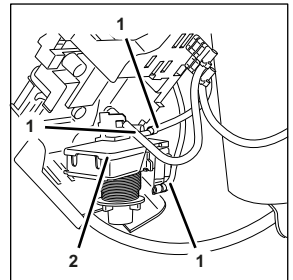

Figure 133
- Disconnect the electrical cables (Figure 133/1) from the starter relay (Figure 133/2).
- Remove the starter relay (Figure 133/2).
- Place the new starter relay (Figure 133/2) into position.
- Connect the electrical cables (Figure 133/1) of the starter relay (Figure 133/1).